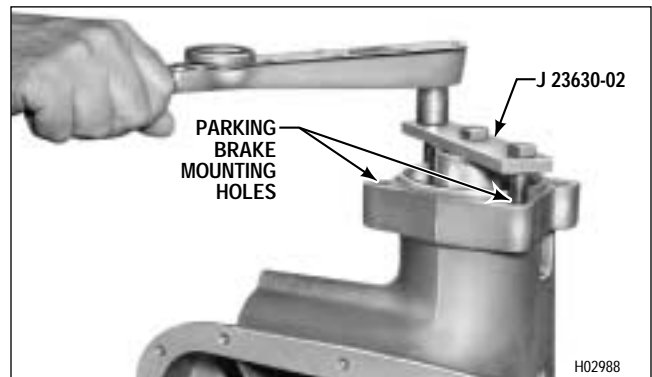

Figure 7-17. Positioning Components For Front Thrust Washer Measurements
(11) Install spring compressor assembly J 23630-2. Tighten the 1/2-20 x 1 1/4 inch center bolt to 15 lb ft (20 N·m). Align the spring compressor base with the two parking brake mounting holes in the transmission housing (Figure 7-17). Install two 1/2-13 bolts through the base and into the case. Tighten these bolts evenly to 5–8 lb ft (7–11 N·m). This positions the gear pack and all components for an accurate selective thrust washer measurement in Paragraph 7-8.